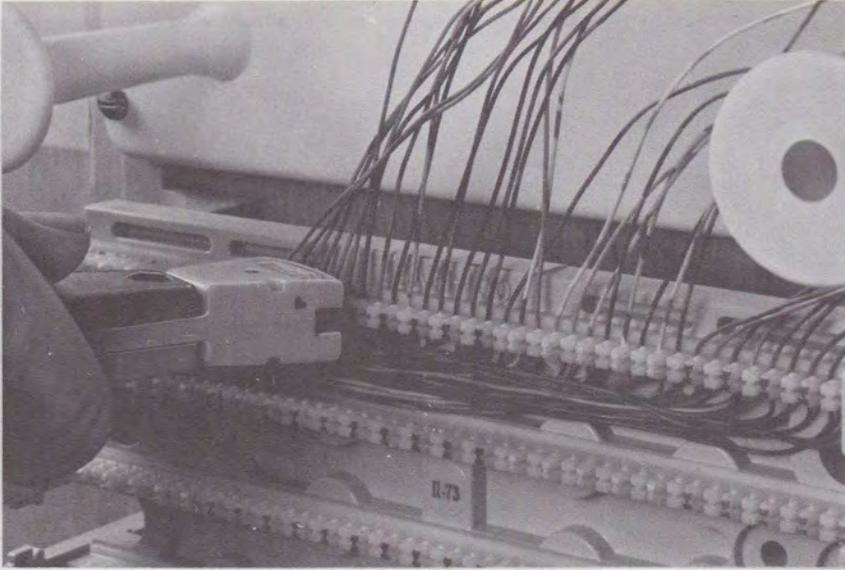

Fig. 17—Cutting Excess Wire
3.15 Cut off excess wire using the 4-pair cutoff tool (Fig. 17). Conductors should be perpendicular to index strip for ease in cutting.